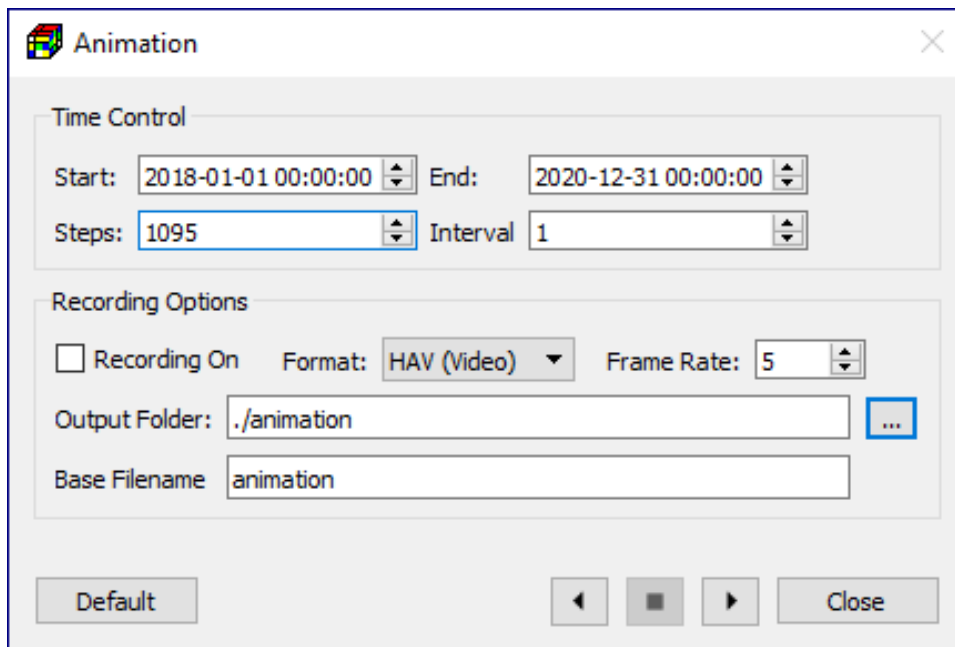

Figure 32. The Animation dialog box
1. Select File > Animation to open the Animation dialog box (Figure 32)
2. Assign the settings to the dialog box as shown in Figure 32.